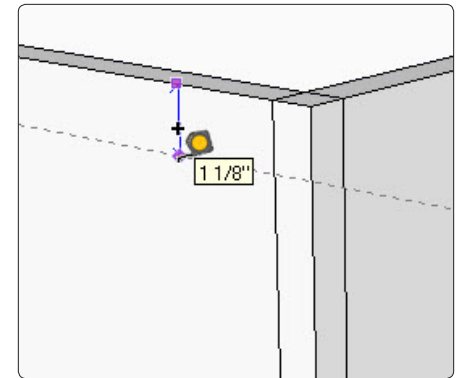

Figure 18. Connect the two components at their outside corners, so that they overlap. Then draw two guide lines to help you locate the pins and tails.
nect the two components at their outside corners, as shown in Figure 18.
Step 2 Locate the center of the top and bottom pins. This will help space the pins. Use the Tape Measure Tool to create two guidelines on the front component, one $1\frac{1}{8}$ in. down from the top edge and another up $\frac{1}{4}$ in. from the bottom edge (Figure 18). These mark the midpoint of the top and bottom pins.